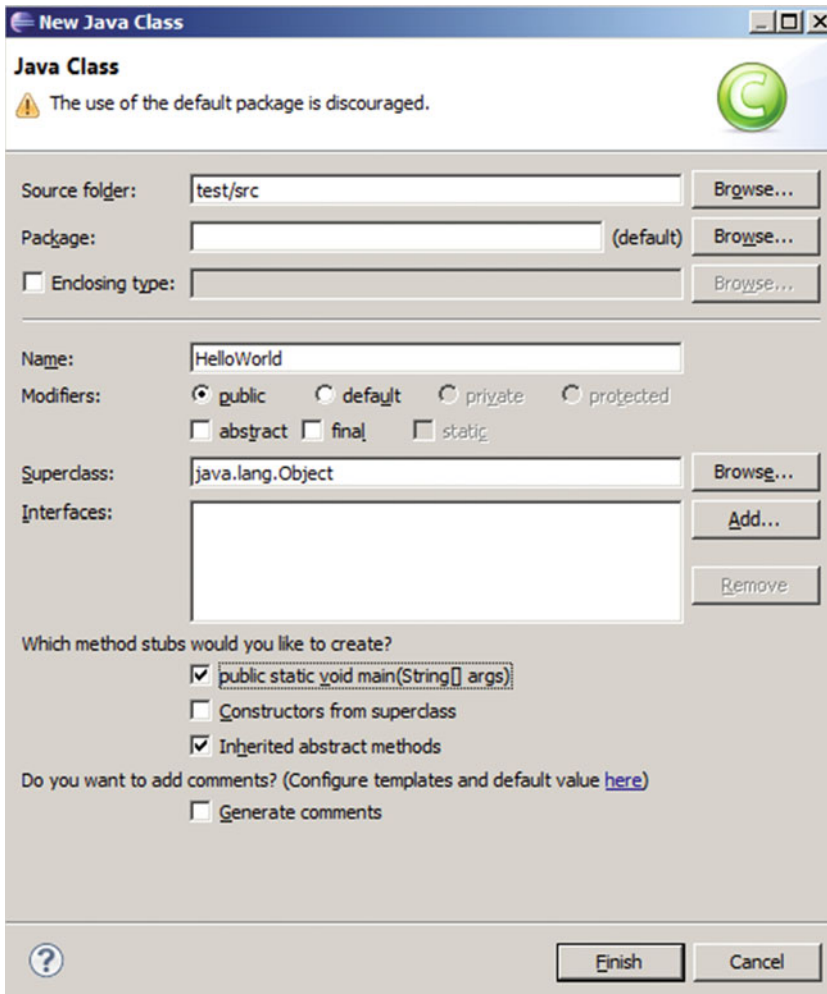

Figure 1-26. Add a class in the new leJOS EV3 project
4. In order to add a new class file, select File > New > Class. Enter HelloWorld in the name field, as shown in Figure 1-26. Eclipse will also offer other options, such as automatically adding a main() method. Check this if you want Eclipse to do some of the typing for you.